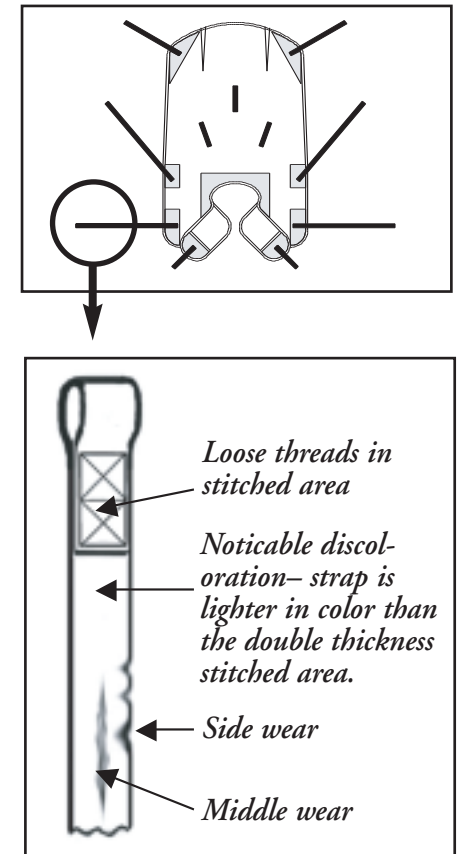

Figure 11
1. Check for any sign of wear on sling straps as described in Figure 11 and at the strap-sling junction. Buckles should be checked to ensure that the locking/unlocking mechanism opens and closes easily and is secure when locked.